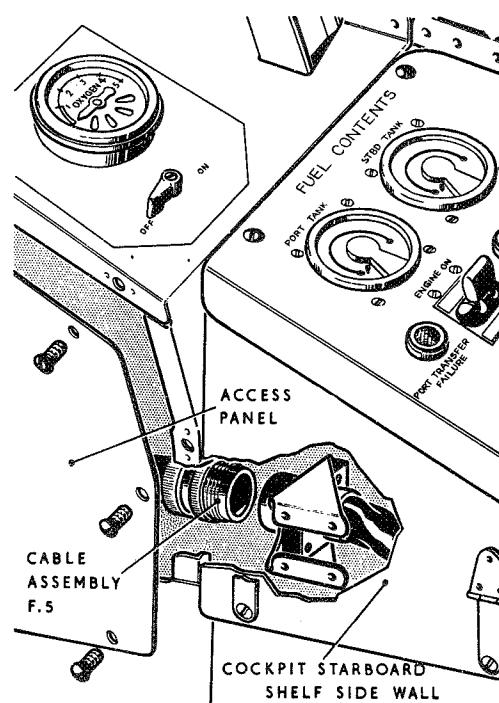

Fig.4 Plug at forward end of cabin starboard shelf
- (1) Render the aircraft electrically safe, as described in Group A.1.
- (2) Disconnect all the plugs and sockets on the cable assemblies at the end plate at the rear end of the shelf. Seal off the plugs and sockets with approved caps and covers and stow the cable assemblies away from the shelf.
- (3) Disconnect cable assemblies F33 and F34 from the A.C. junction box, fit approved caps and covers to the plugs and sockets and coil back the assemblies to the starboard shelf.
- (4) Disconnect cable assembly F5 from the plug mounting bracket at the forward end of the shelf (fig.4). Seal off the plug and socket with an approved cap and cover. Stow the cable assembly clear of the shelf. On Post Mod. N.S.M.3012 aircraft remove cover